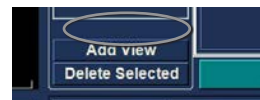

Figure 5.24 - Adding a View
1. Click on the “Add View” button as shown in Figure 5.24.